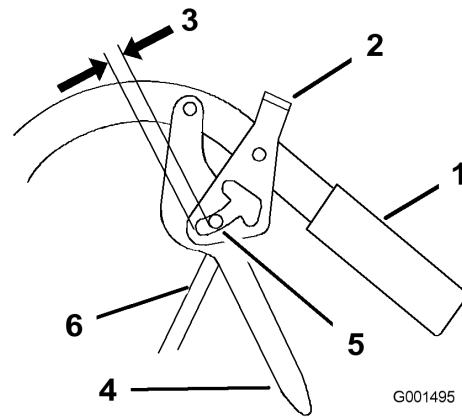

Figure 36
3. Install the control rod to the drive lever and the neutral/parking brake lock. Secure the control rod with a clevis pin and a hairpin cotter (Figure 36).
2. Adjust the control rod length by threading the rod in or out of the rod fitting until there is a 3/16 to 1/4 inches (5 to 6 mm) clearance between the control rod and the bottom of the neutral/parking brake lock (Figure 36).